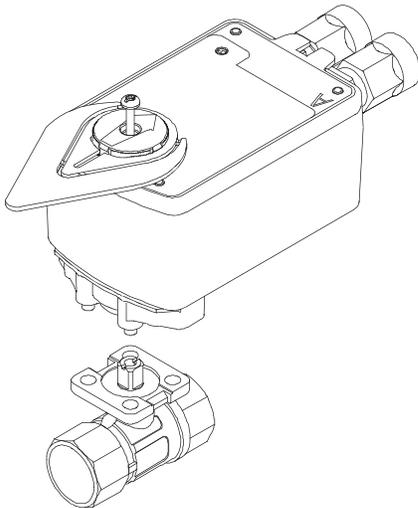

Figure 9: Mount the Actuator
- 7. Install the actuator on the ball valve (Figure 9). Tighten the actuator mounting screw to a torque of 10 to 12 lb-in. (1.1 to 1.4 N-m) and snap the large adjustable pointer into place.